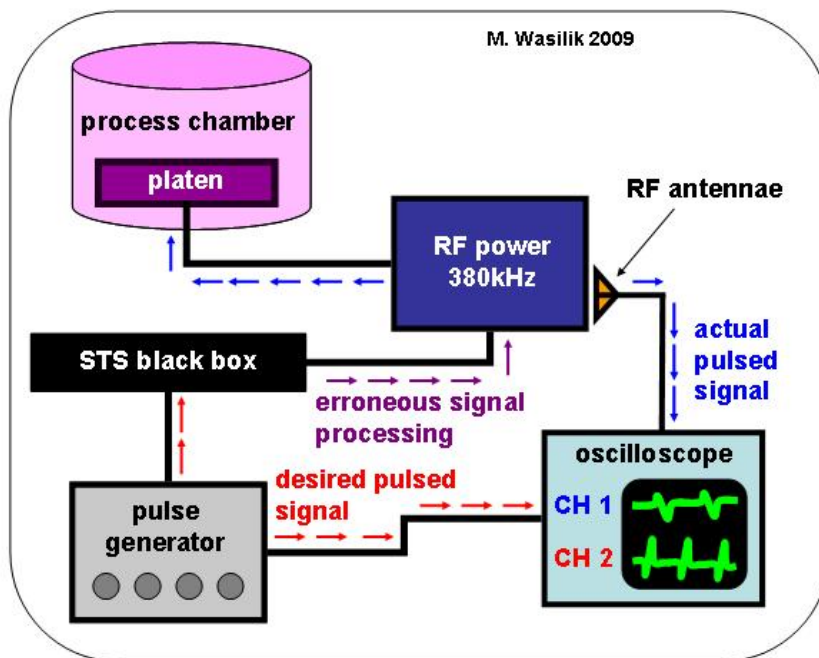

Figure 1
- 9.8.1.2 Ensure that the oscilloscope division resolution is set properly. The default settings are 5 ms per division, and 2 volts per division. Two signals will be measured on the oscilloscope: (1) the input signal from the pulsing generator and (2) the actual output signal from the RF power supply. Refer to **FIGURE 1** in section 11.0. Note due to an OEM hardware error, the actual pulsed signal sent to the platen does not match the desired signal set by the pulsing unit.